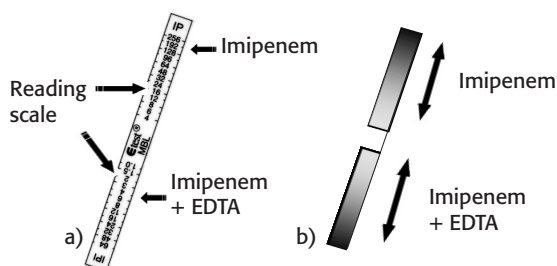

Figure 1. Configuration of Etest MBL IP/IPI strip
The Etest MBL IP/IPI strip (Figure 1) consists of a thin, plastic carrier (5 x 60 mm) calibrated with reading scales in $\mu\text{g/mL}$ on one side (a) while the opposite surface carries two predefined gradients (b). IP stands for imipenem (4-256 $\mu\text{g/mL}$) and IPI imipenem (1-64 $\mu\text{g/mL}$) plus a constant level of EDTA. The test is set up using a standard Etest procedure. The presence of MBL is reflected by a reduction of the IP Inhibitory Concentration (IC) by $\geq 3 \log_2$ dilutions in the presence of EDTA or the appearance of a phantom zone or deformation of the IP ellipse (**READING AND INTERPRETATION**, Figures 2, 3 and 4).